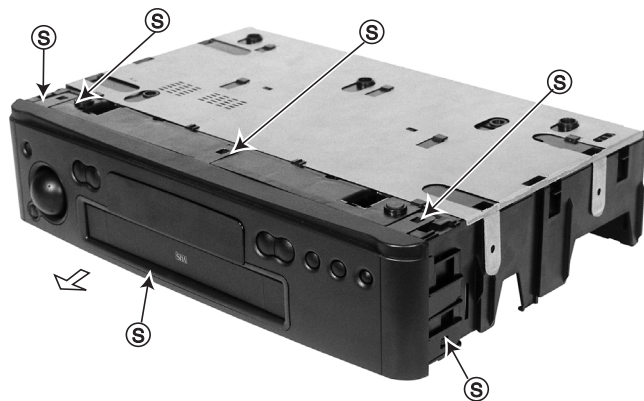

Figure 4-2
2. Base plate (Figure 4-2)
3. Front panel (Figure 4-2)